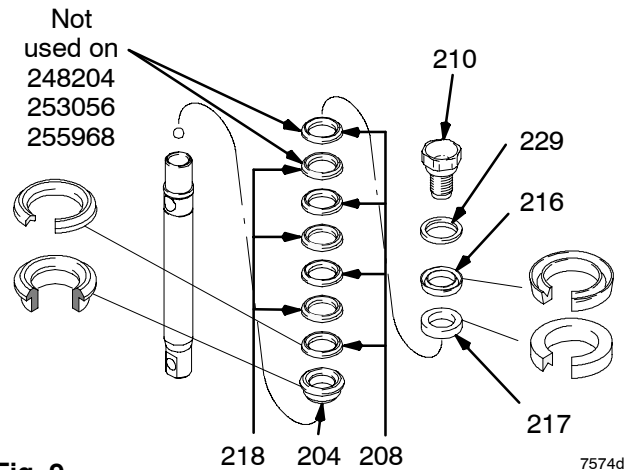

Fig. 9 7574d
Fig. 9. Soak all leather packings in SAE 30W oil for 1 hour minimum prior to assembly. Stack male gland (204) on piston rod. Alternately stack UHMWPE (208) and leather (218) packings (note orientation) on piston rod. Install female gland (217). Install piston wiper (216) (note orientation) and backup washer (229) on piston valve (210). The special sealing patch on piston valve threads is good for four repackings. Use Loctite® on piston valve threads after four repackings.